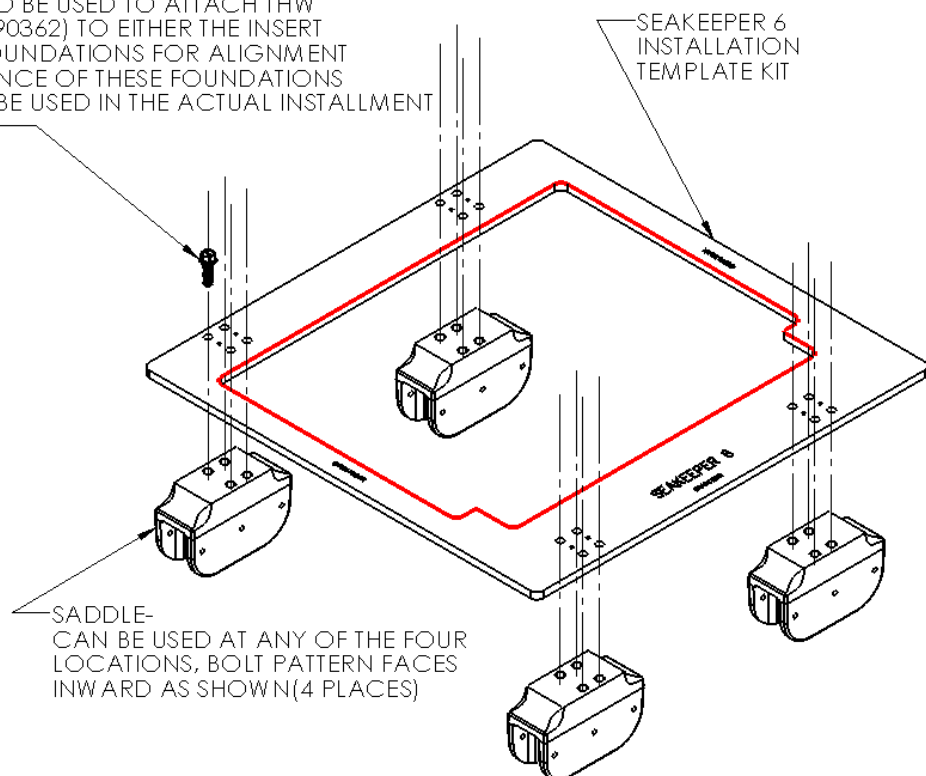
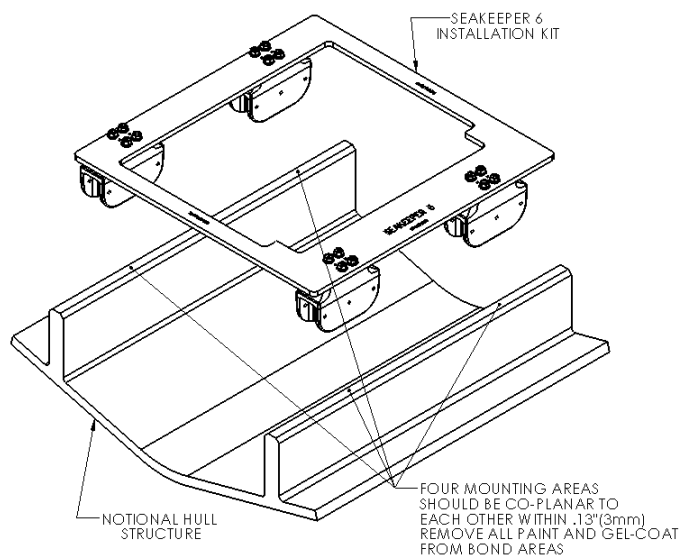
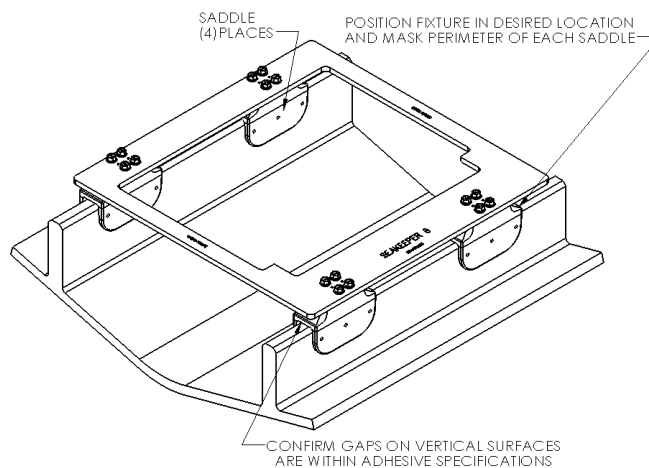

FIGURE 6 – EXPLODED VIEW OF SADDLE INSTALLATION FIXTURE
FIGURE 8 - INSTALLING FIXTURE ON HULL
FIGURE 9 - MASKING PERIMETER OF SADDLES
- 2) **The four areas where the feet of the Seakeeper will rest should be coplanar to within .06" (1.5mm). See Figure 9.**
Seakeeper provides an installation fixture template, P/N 90392 that locates the saddles at the proper spacing both in the fore-aft direction and the port-starboard direction. See Figures 6, 7 & 8 below. Once assembled with the provided saddle fittings, the fixture can be used to check saddle clearances and alignment of the hull structure. The fixture will allow the builder / installer to lay-up and adjust the foundation dimensions to create a low-clearance fit between the Seakeeper foundation saddles and the hull structure. Shear strength of the adhesive will be maximized if the cured thickness between the vessel structure and Seakeeper saddles is at the thinner end of the adhesive manufacturer’s recommended range. Therefore, the fixture should be used to confirm
- 1) Position installation fixture (Fig 8) on hull girders noting recommended clearances for maintenance from Figure 2. Check that the screws fastening the saddles to the installation fixture are tight (Fig 6).
- 2) Mask hull area (Fig 9) around foundation saddles for easy clean-up and to create outline of surface area to receive adhesive as (Fig 8). Insure that the bond gap is within Seakeeper's recommended thickness, or 3mm if using Plexus MA590.
- 3) Raise fixture clear of foundation. Check all four mounting areas are co-planar to within .13" (3 mm) to each other, as well as parallel to the water line plane, as shown in Fig 8.
- 5) Remove any paint or gel-coat from bond surfaces so that adhesive will bond directly to laminate fibers and resin as shown in Figure 8.
- 1) Ensure that screws fastening saddles to the installation fixture are tight (Fig 6).